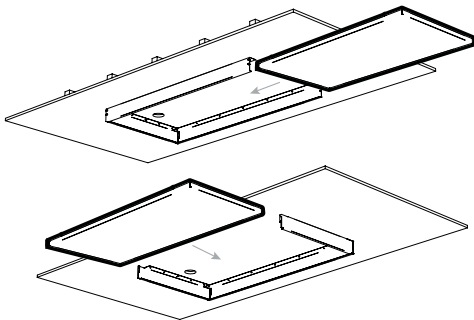

Figure 8
10. Insert the tile and the electrical box into the frame through the opening created by the removed section (Fig. 8). Take care not to scratch the tile.